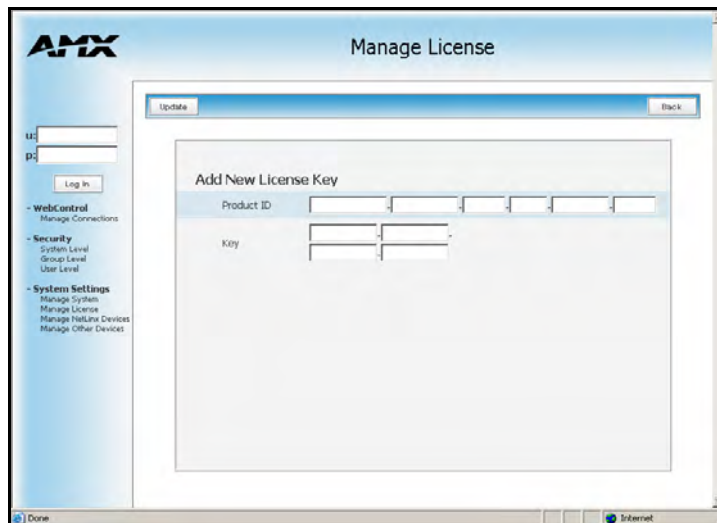

FIG. 58 System Settings - Add New License Key page
2. Click the **New** button to be transferred to the *Add new License Key* page (FIG. 58).